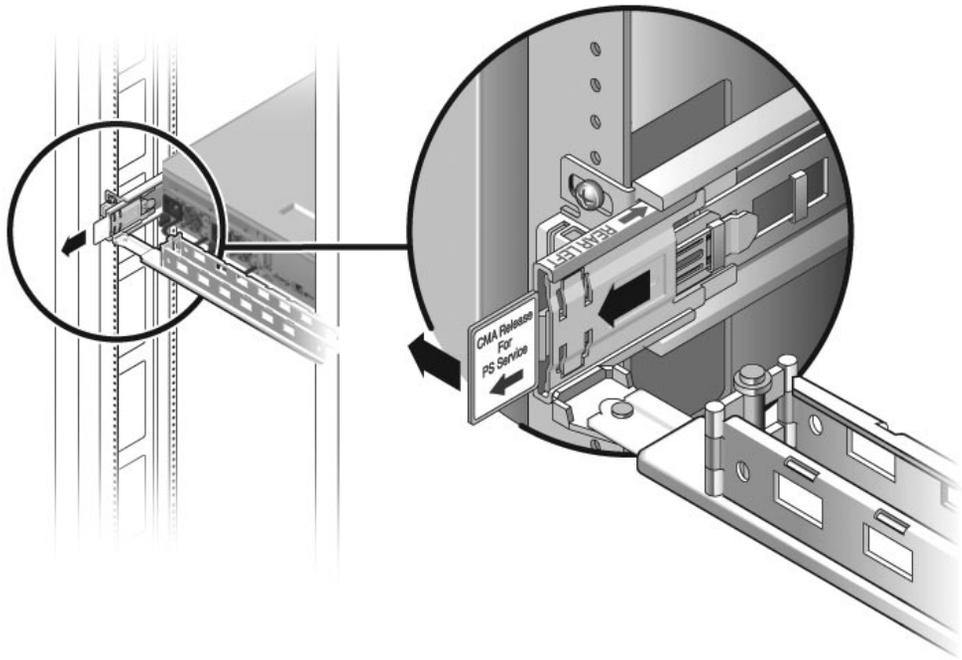

FIGURE 4-3 Rotating the Cable Management Arm
- 4. At the rear of the server, release the cable management arm (CMA) tab (FIGURE 4-3) and swing the CMA out of the way so you can access the power supply.**
2. Release the cable management arm tab (FIGURE 4-3) and swing the cable management arm out of the way so you can access the power supply.